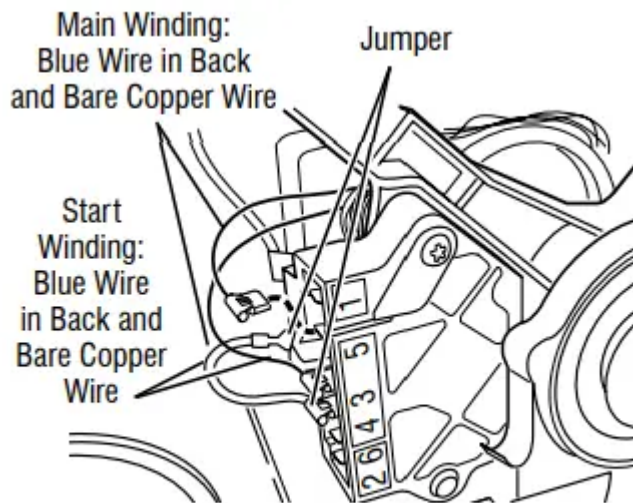

Figure 10 - Main and start winding measure points
9. Remove the bare copper wire terminal from pin 5 of black drive motor switch. See figure 10.
10. Using figure 10 and the strip circuit, check for the resistance values of the motor's Main and Start winding coils as shown in the following table.
11. On gas dryer only, check the belt switch by unplugging the connector and measuring the resistance between pins 1 and 3 of the belt switch connector while pushing up the pulley (see figure 10).